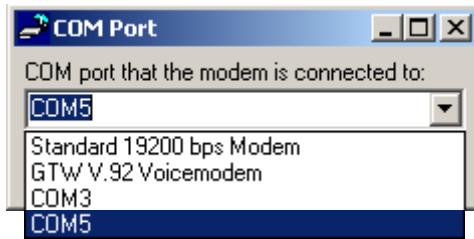

Figure 17. COM Port – COM5
- (c) Select from the COM Port drop down menu COM5 (see Figure 17).